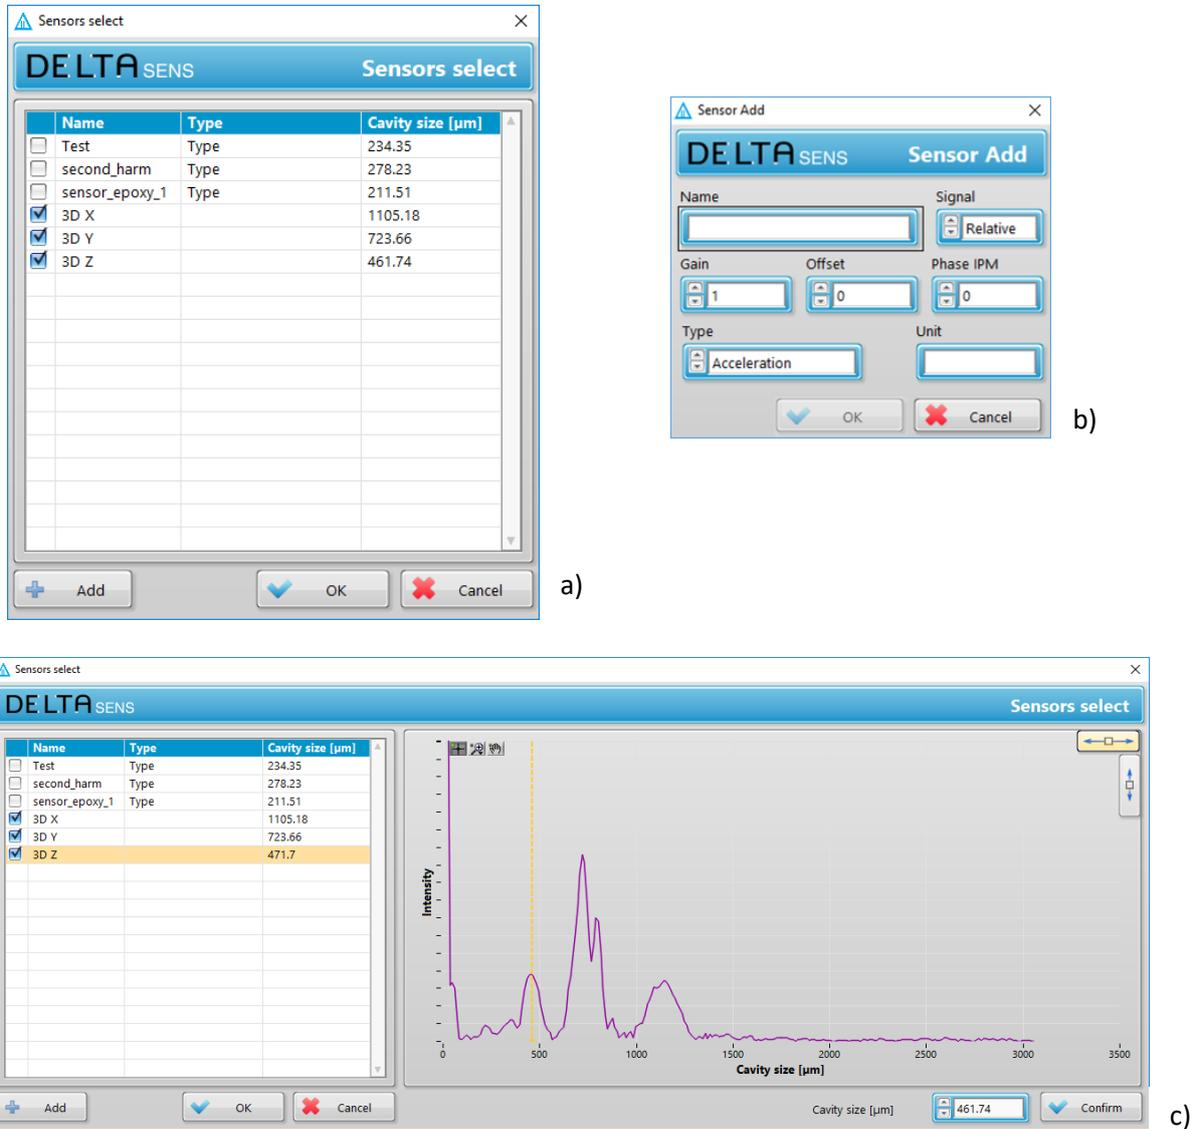

Figure 8: Sensor select and Sensor add windows
The last step required to start measuring and acquiring data with the DeltaSens system is the definition of the sensors connected to the unit. To properly demodulate their signals, it is necessary to define each sensor and set its cavity size on the "Sensors Select" menu of the "Home" panel. If the interrogator is delivered together with a set of sensors, their settings will be already stored into the unit. If this is not the case, the following instructions shows how to define manually a set of sensors and decide what sensors signals the unit should decode. Open the "Sensors select" menu of the "Home" panel as shown in Figure 8.
- Click "Add" on the bottom left corner of the menu to open the "Sensor Add" window as shown in Figure 8 b). This popup window allows to define a new sensor connected to the unit.
- To decode the signal of the new sensor its cavity size must be set. Double click on the sensor name to extend the "Sensor select" window as shown in Figure 8 c).
- To select the sensor cavity size, use the cursor to move the yellow line indicator over this peak as shown in Figure 8 c). Click "Confirm" at the bottom right of the window to save the changes.